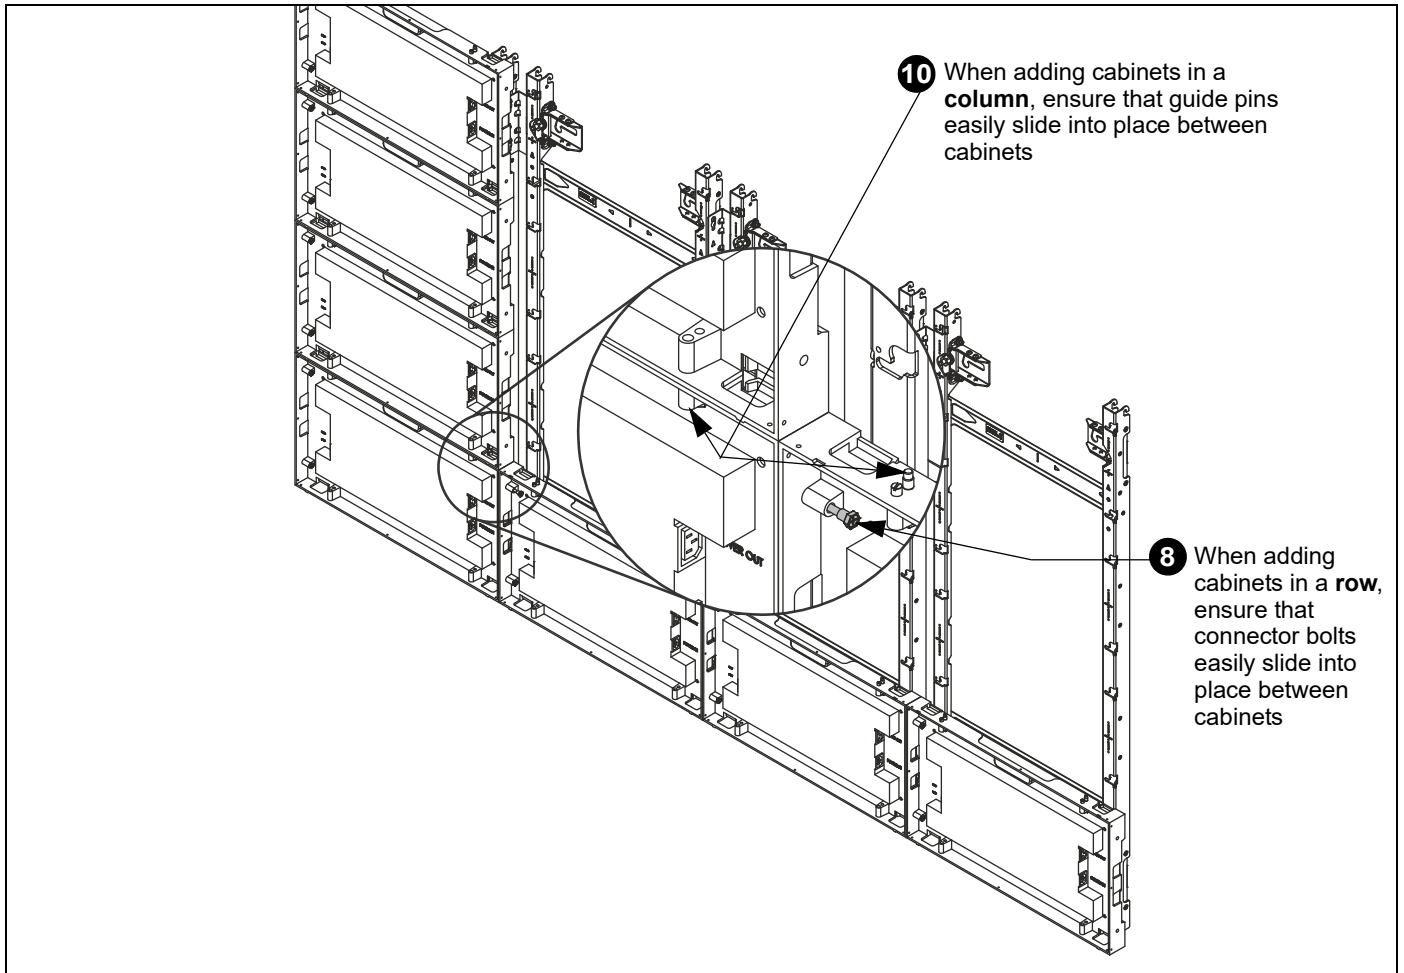

Figure 20
- 8. When installing a row of cabinets, slide some of the connector bolts on the cabinets into place to make sure the cabinets are aligned and the bolts slide easily into place. (See Figure 20)
- 9. After the bottom row of cabinets are installed, it is a good idea to install the far left column of cabinets to check that everything is square and straight. (See Figure 20)
- 10. When installing a column of cabinets to check alignment, it is a good idea to ensure that the guide pins all slide into place easily. (See Figure 20)